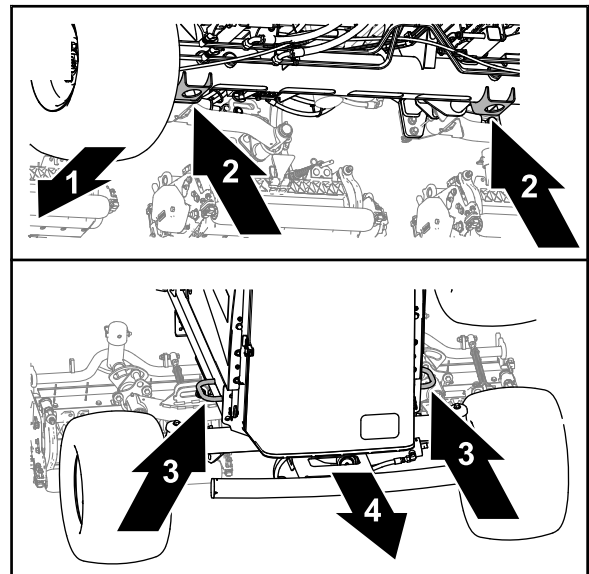

Figure 91
- Front—the hole in the jack brackets of the front-axle tube (Figure 91).